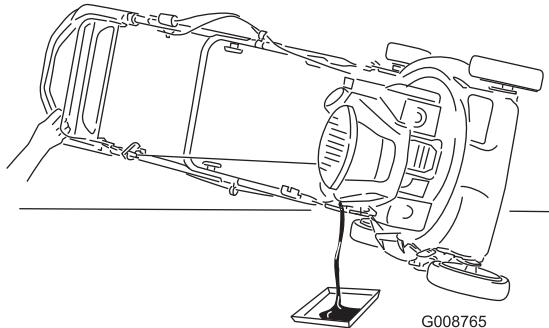

Figure 38
- Tip the machine onto its side, with the oil-fill tube down, to drain the used oil out through the oil-fill tube into the oil-drain pan (Figure 38).